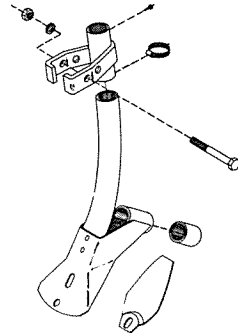

Figure 4
- 4) There is a standard seed boot (Figure 4), that is recommended for 12" spacing but can also be used on 9" spacing providing 12" shovels are installed on the cultivator. The seed is placed in a broadcast pattern with little or no row definition giving excellent swath support.